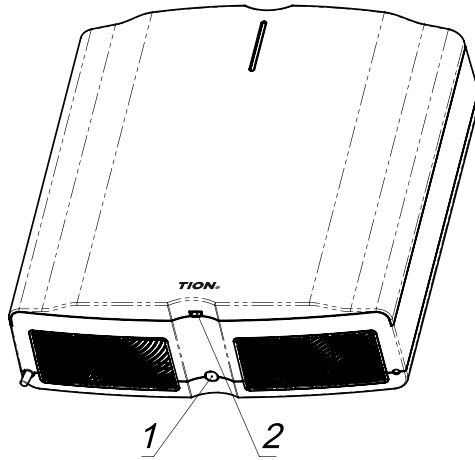
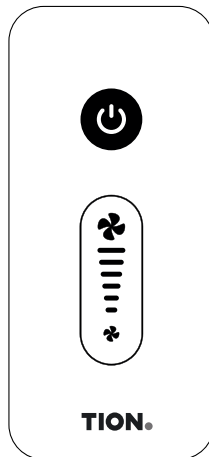
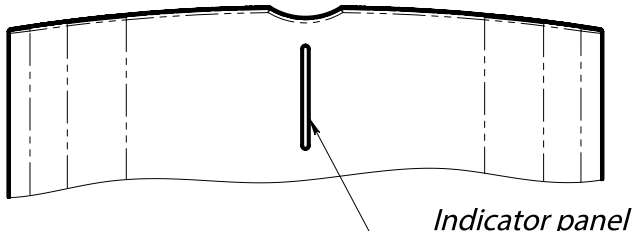
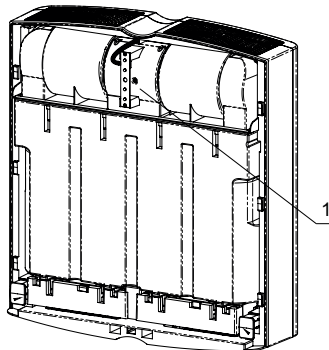

Figure 3. Controls on the bottom panel
Figure 4. Remote controller (RC)
Figure 5. Indicator panel
Figure 6. Position of the backlight brightness controls
Disconnect Tion Clever air purifier-decontaminator from power supply and contact an authorized service center, if the indicator panel (Figure 5) shines yellow and the fault cannot be normally fixed (see Chapter 9), as well as in the following cases:
After pressing the ON/OFF button (Figure 3, Pos. 1), the indicator panel (Figure 5) will shine blue and the device will start operating in the 150 m³/hour mode. To turn the device off press the ON/OFF button again (Figure 3, Pos. 1).
The buttons  and  (Figure 4) serve to control the performance mode of Tion Clever air purifier-decontaminator. The performance mode is visualized on the indicator panel (Figure 5) by the length of the blue light strip (in the 150 m³/hour performance mode the whole indicator strip lightens, and in the 100 m³/hour mode – only its lower half).
Pressing the  button of the remote control unit (Figure 4) switches the Tion Clever device off into standby mode, which is indicated by blinking of the lower half of the blue strip (Figure 5). Pressing the  button of the RC again will switch on the device into the last used performance mode (the indicator panel shines blue).
The condition of Tion Clever air purifier-decontaminator is displayed on the indicator panel located at the front of the casing (Figure 5).
The operating mode of the device (see p. 4.3) can be determined by the blue light signalization on the indicator panel (Figure 5). The indicator plate has two brightness modes. The backlight brightness switch is located on the indicator plate (Figure 6, Pos. 1).
WARNING! Switch off the device by pressing the ON/OFF button (Figure 3, Pos. 1) and wait 5 minutes, then disconnect the power supply (pull the plug out of the power socket).
1. Lift the lid (Figure 1, Pos. 2), shifting it upwards until it stops (pull the latch in the lower part of the panel, Figure 3, Pos. 2);